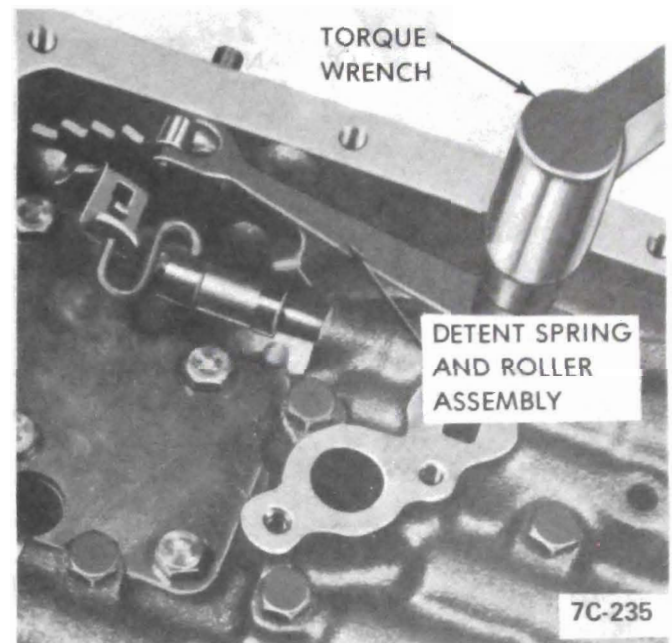

Figure 7C-184
5. Install valve body. Connect manual control valve link to range selector inner level. Torque bolts in random sequence to 13 lb.ft. leaving bolt loose for detent roller and spring assembly. See Figure 7C-183.